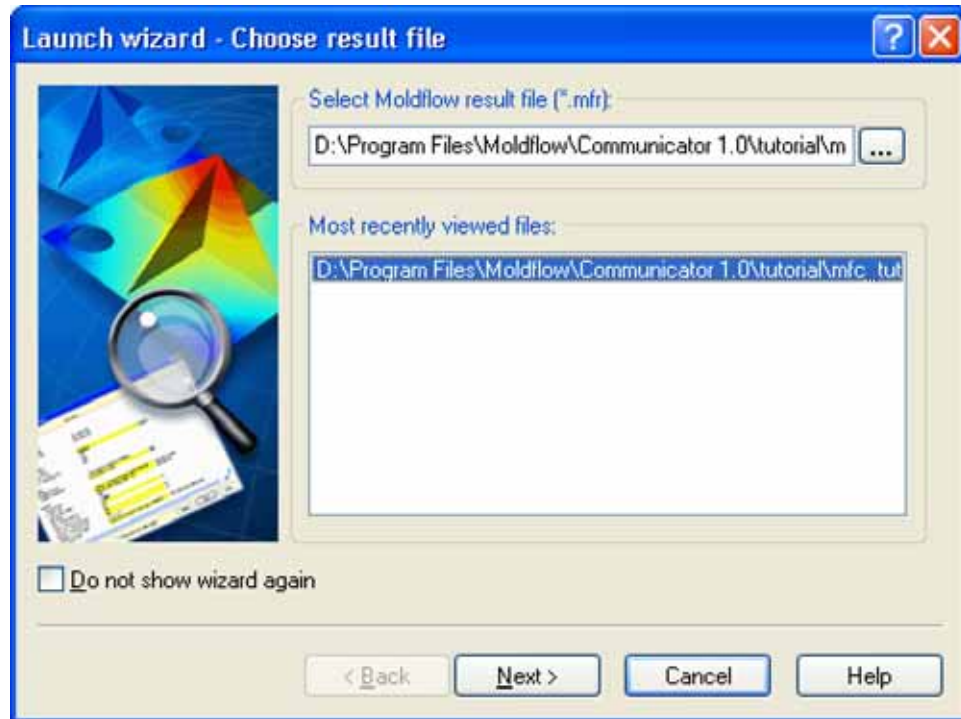

Figure 139: Launch wizard - Choose result file
- As soon as you open Moldflow Communicator the Launch wizard dialog appears, as shown in Figure 139.